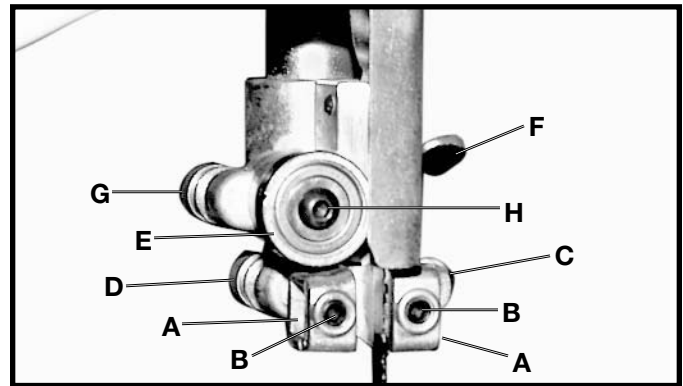

Fig. 35
4. Adjust the guides (A) Fig. 35 so that the front edge of the guides are just behind the “gullets” of the saw teeth. The complete guide block bracket can be moved in or out by loosening the thumb screw (C) and turning the knurled knob (D) Fig. 35. When the guides (A) are set properly, tighten thumb screw (C).
5. Two set screws (B) Fig. 35 hold the upper blade guides (A) in place. Loosen the set screws (B) to move the guides (A). Place them as close as possible to the side of the blade. (Be careful not to pinch the blade). Tighten the screws (B).
6. The upper blade support bearing (E) Fig. 35 prevents damage to the set in the saw teeth by keeping the blade from being pushed too far toward the back. The support bearing (E) should be set  $1/64$ " behind the blade by loosening the thumb screw (F) and turning the knurled knob (G) to move the support bearing (E) in or out.
7. Adjust the blade support bearing (E) so that the back edge of the blade overlaps the outside diameter of the ball bearing by about  $1/16$ ". The bearing (E) is set on an eccentric. To change the position, remove the screw (H) and bearing (E) Fig. 35. Loosen the thumb screw (F), back out the knurled knob from the set screw. Remove the hex shaft from the hole, and rotate it to move the eccentric for the bearing.
8. When the blade guide wears to a point that it cannot be adjusted close to the blade, loosen screw (B) Fig. 35 and reverse the blade guides (A) Fig. 35.